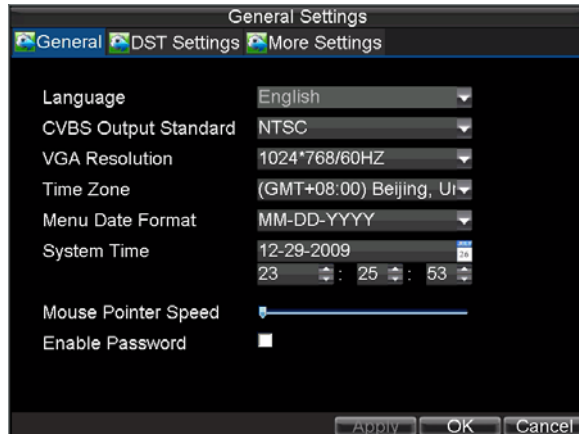

Figure1. General Settings Menu
1. Click Menu > Settings > General to enter the General Settings menu, shown in Figure 1.